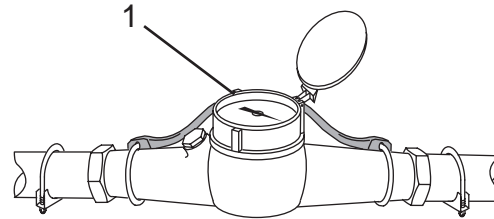

Figure 89
2. Reset the display by turning the collar (Figure 89, Item 1) counterclockwise until the pointer is aligned with "0".